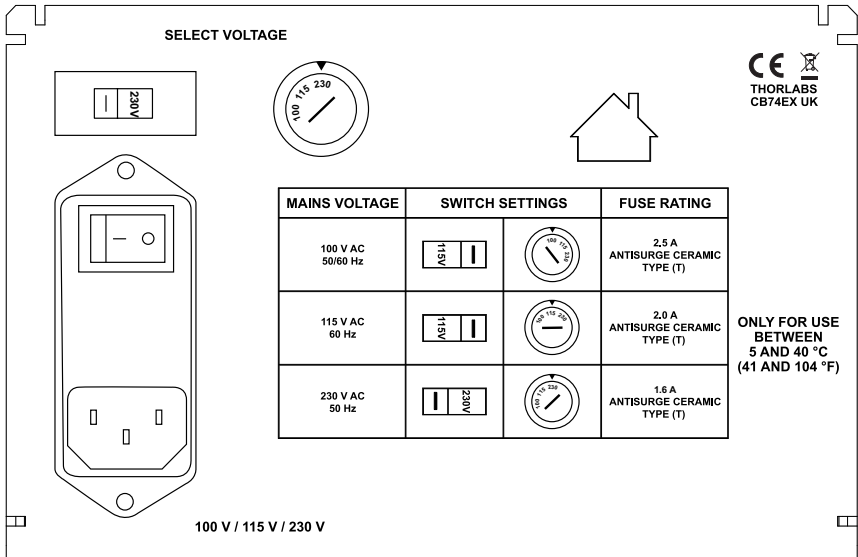
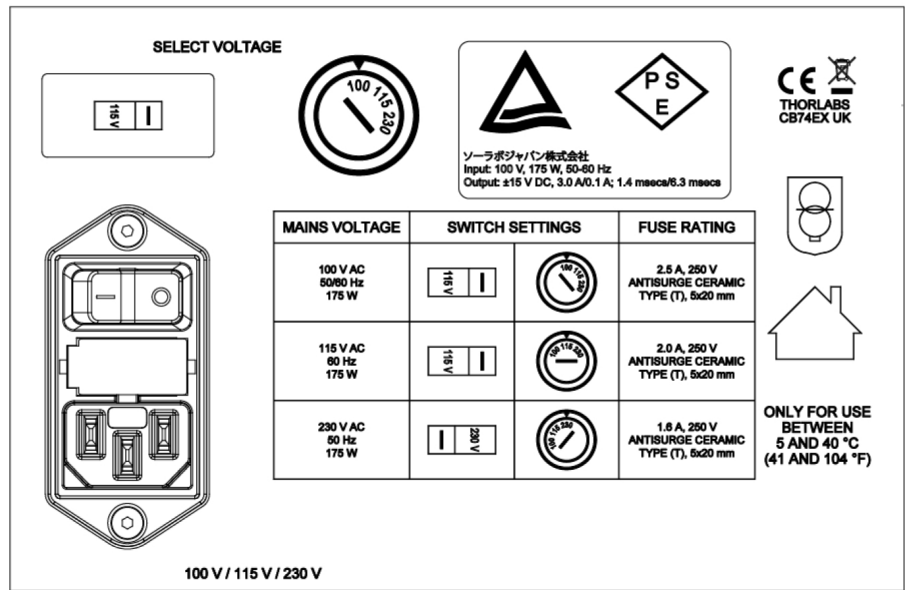

Fig. 3.3 Rear Panel -EC and -US Models
Fig. 3.4 Rear Panel -JP Models
- 1) Connect the power cord to the socket on the rear panel of the unit - see Fig. 3.3. and Fig. 3.4.